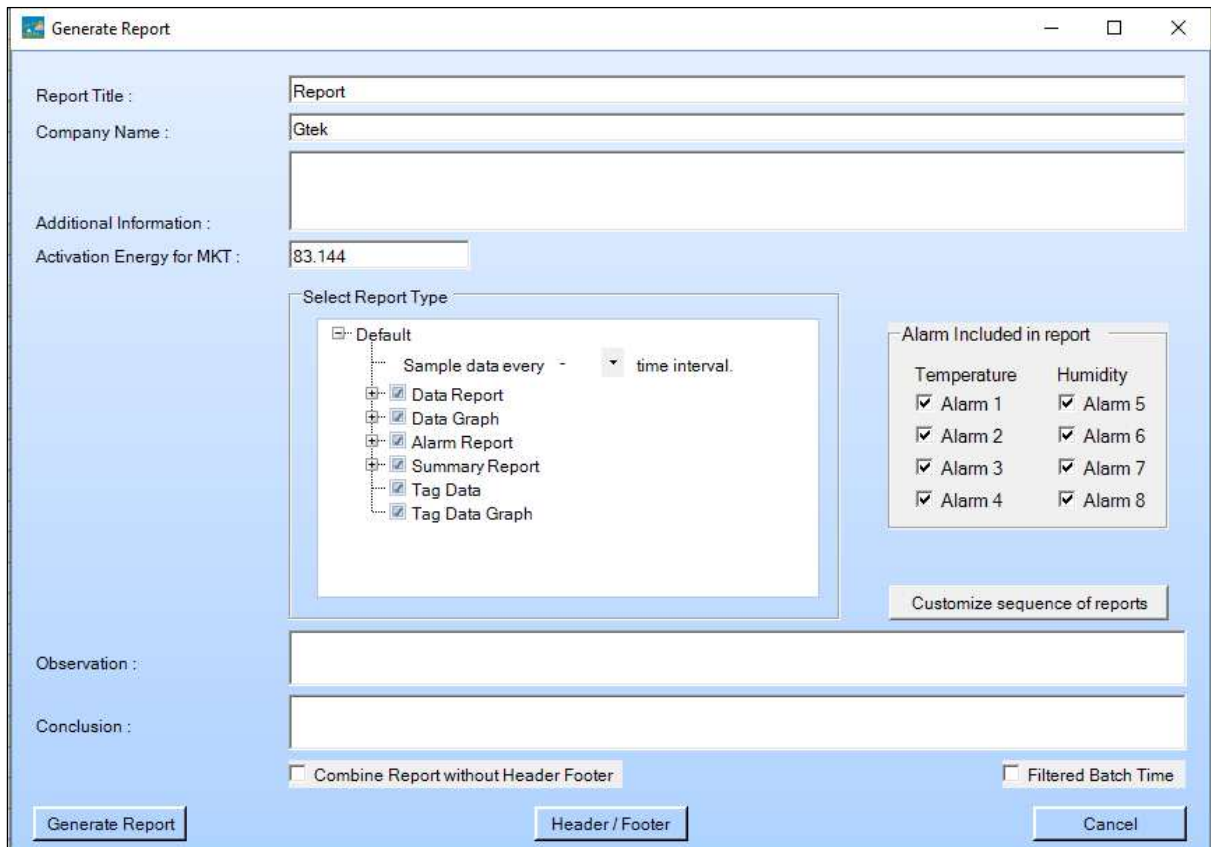

Figure 18 Filling up the options to generate PDF report
- To generate the PDF report of data, click on  icon. A pop up window will appear with the following options as shown in figure 18.